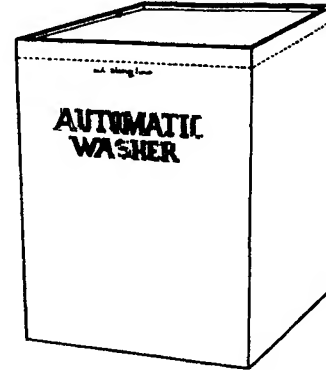

Fig. 1
1. To unpack the washer, remove the carton top by carefully cutting around the top along the dotted line with a carton knife. (Fig. 1)